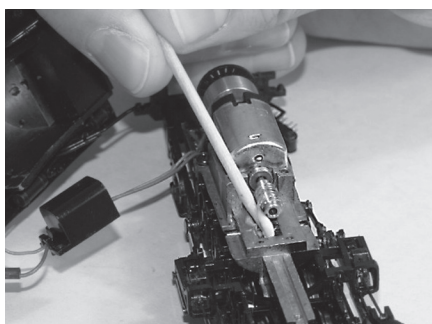

Figure 15 - Lubricate the worm and gears
2. Apply the NG Jell with an applicator (or toothpick as shown in Figure 15) to the worm and gears. *Again, it is best to remove the motor to allow you to rotate the drivers and spread the grease throughout the gear teeth.* See Figures 16 and 17.